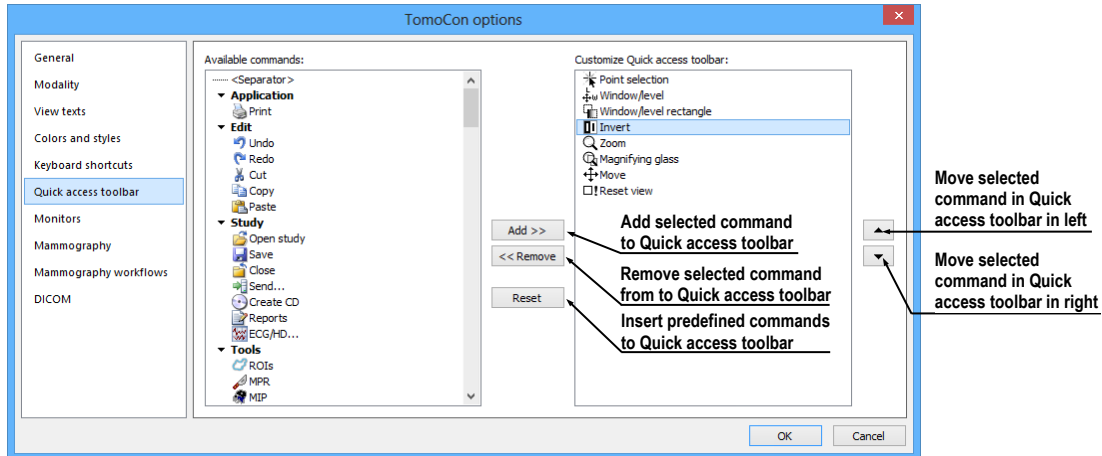

Figure 72 – Configuring the Quick access toolbar
The **Quick access toolbar** is a customizable toolbar for accessing commands in TomoCon (see Figure 72).
3. Click **Add >>** (see Figure 72).